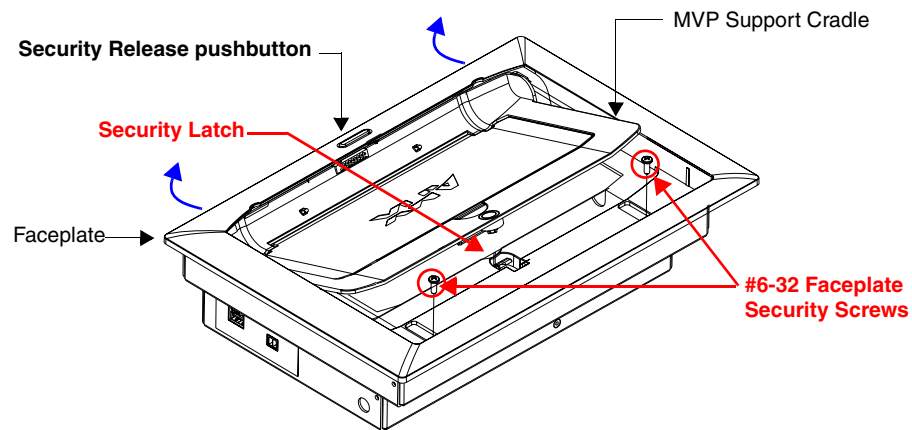

FIG. 19 Faceplate screw removal
9. Remove the two #6-32 Faceplate Security Screws from the top rim of the faceplate (FIG. 19) and place these aside.
10. Position the MVP-WDS unit so the Security Release pushbutton is positioned directly in front of you, then grasp the top rim of the faceplate and begin to angle it upwards. At this point, the faceplate is still connected to the Security Latch (located behind the securing magnet, as shown in FIG. 19).